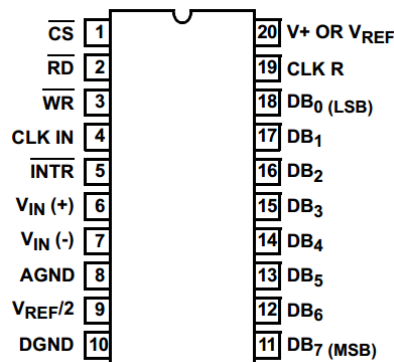

Figure 12.1: Pin Configuration of ADC0804
1. ADC 0804 is an 8-bit successive approximation A-to-D converter. Its pin configuration is as shown in Figure 12.1 with the pin description given below: